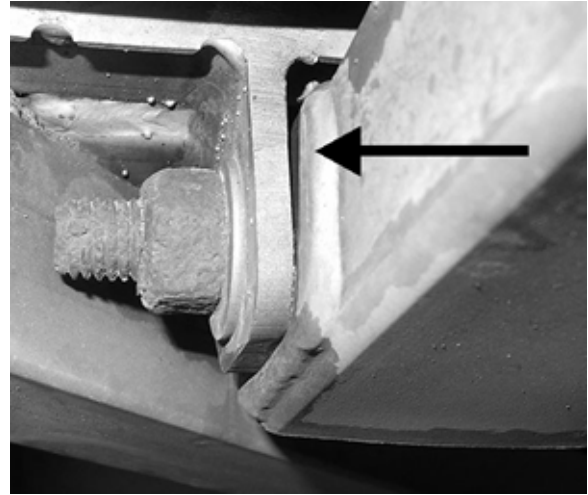

FIGURE 25: VISIBLE GAP ON TRANSVERSAL SCREW JOINT
5. On the transversal screw joints (Figure 25) any visible gap between cradle support tubing and vehicle frame mounting lugs is not acceptable.